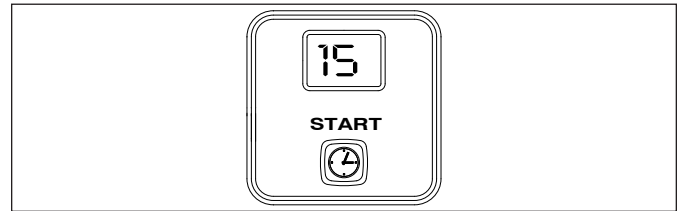

Figure 13. Time Display for Fd Mode (15 Seconds)
3. To make a change, press and hold the Start button to scroll through settings - release the Start button at desired setting (Figure 13).